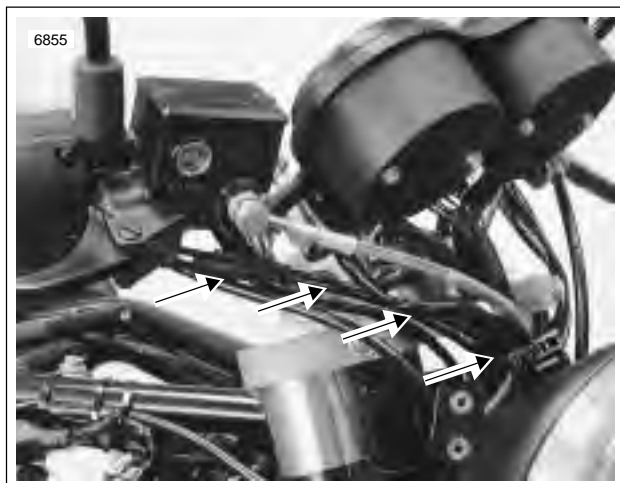

Figure 2-93. Throttle Cable/Handlebar Routing
- a. See Figure 2-93. Cables must be routed forward from throttle control grip, forward of upper triple clamp and to the left.